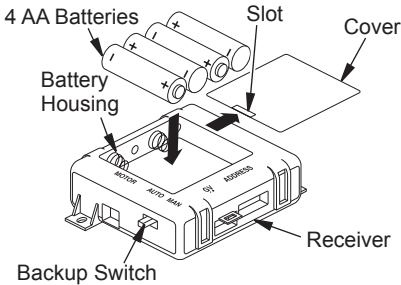

Figure 33 - Installing Batteries in Receiver
1. Locate slot on battery cover of receiver (see Figure 33). Firmly insert tool such as a small screwdriver, butter knife, or dime into the slot and lift up to remove cover.